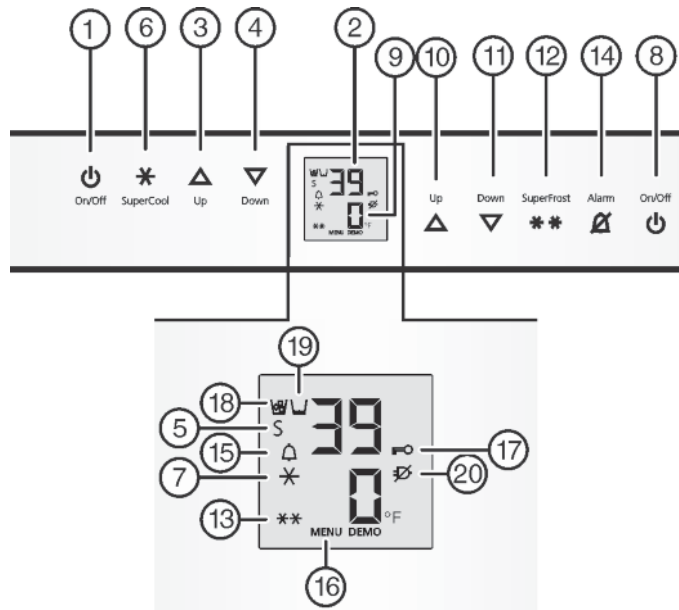

Fig. 3
- ▶ Press On/Off button, freezer compartment *Fig. 3 (8)*.
- ▶ Press Fridge compartment On/Off button *Fig. 3 (1)*.
- ▶ Activate setting mode: Press SuperFrost button *Fig. 3 (12)* for about 5 seconds.
- ▷ The Menu symbol *Fig. 3 (16)* lights up.
- ▶ Using Freezer compartment Up button *Fig. 3 (10)*/ Freezer compartment Down button *Fig. 3 (11)* select °.
- ▶ To confirm: Briefly press SuperFrost button *Fig. 3 (12)*.
- ▶ Using Freezer compartment Up button *Fig. 3 (10)*/ Freezer compartment Down button *Fig. 3 (11)* select °F or °C.
- ▶ To exit setting mode: Press Freezer compartment On/Off button *Fig. 3 (8)*.
- ▶ Activate setting mode: press and hold the SuperFrost button *Fig. 3 (12)* for approximately 5 s.
- ▶ Using the Freezer compartment Up button *Fig. 3 (10)* or Freezer compartment Down button *Fig. 3 (11)*, select **c**.
- ▶ Press the SuperFrost button *Fig. 3 (12)* briefly to confirm.
- ▶ To switch on the child-proof lock, press the SuperFrost button *Fig. 3 (12)* briefly.
- ▷ The Child safety symbol *Fig. 3 (17)* lights up. **c** flashes on the display.
- ▶ To switch off the child-proof lock, press the SuperFrost button *Fig. 3 (12)* briefly.
- ▷ The Child safety symbol *Fig. 3 (17)* goes out. **c** flashes on the display.
- ▶ Deactivate setting mode: press the Freezer compartment On/Off button *Fig. 3 (8)*.
▶ Press Alarm button *Fig. 3 (14)*.
At the same time, the Alarm symbol *Fig. 3 (15)* will flash.